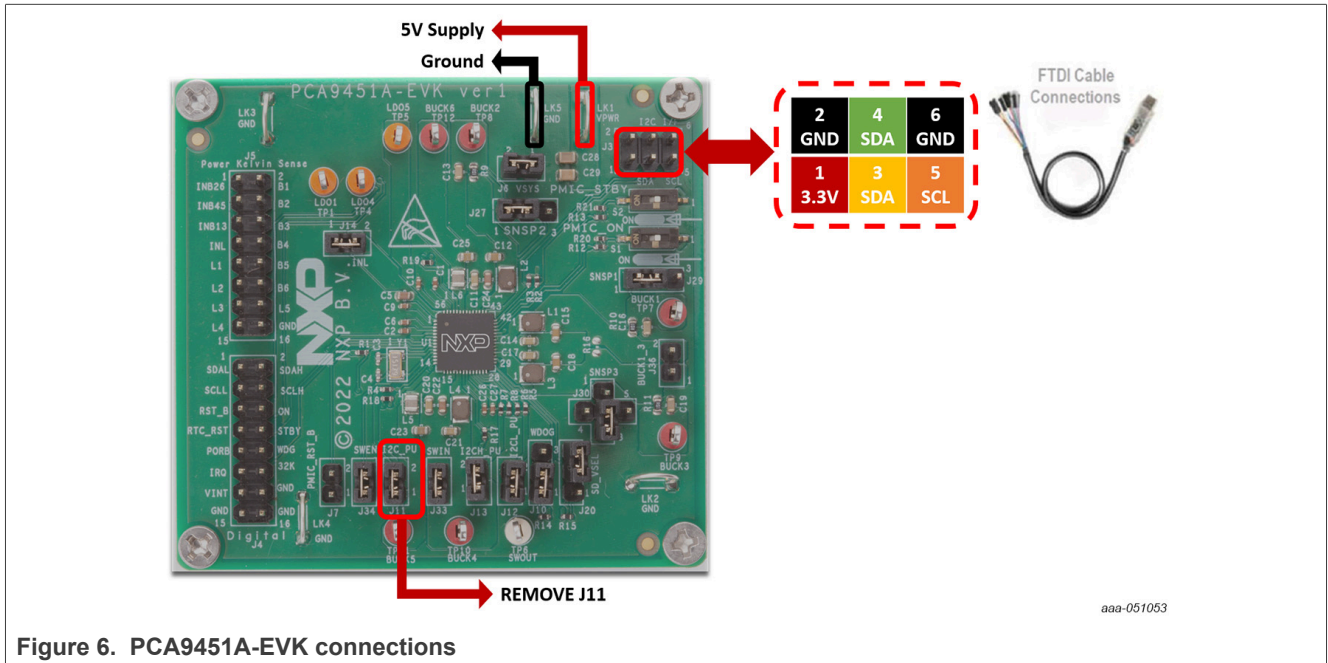

Figure 6. PCA9451A-EVK connections
Connect the wires of the FTDI cable on the following pins as shown in Figure 6, and make sure the power supply is turned off and the USB connector is disconnected during the wiring stage:
1. Connect both SDAs, SCL, GND, and the 3.3 V wires from the FTDI cable as mentioned in Figure 6 above.
As shown in Figure 6, connect the wires of the FTDI cable and power supply according to the information in Section 7.2.1.